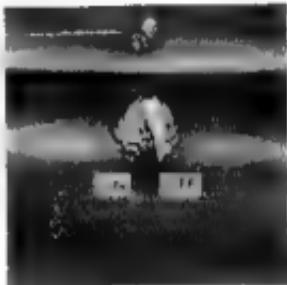

Fig. 18—Windshield Wiper Control Knob
**Windshield Wiper.** The windshield wiper motor is mounted under the instrument panel and is vacuum operated from the engine. The control knob (fig. 18) located on the instrument panel above the choke knob is used to turn the wiper "on" or "off". Moving the knob to the left turns the wiper on